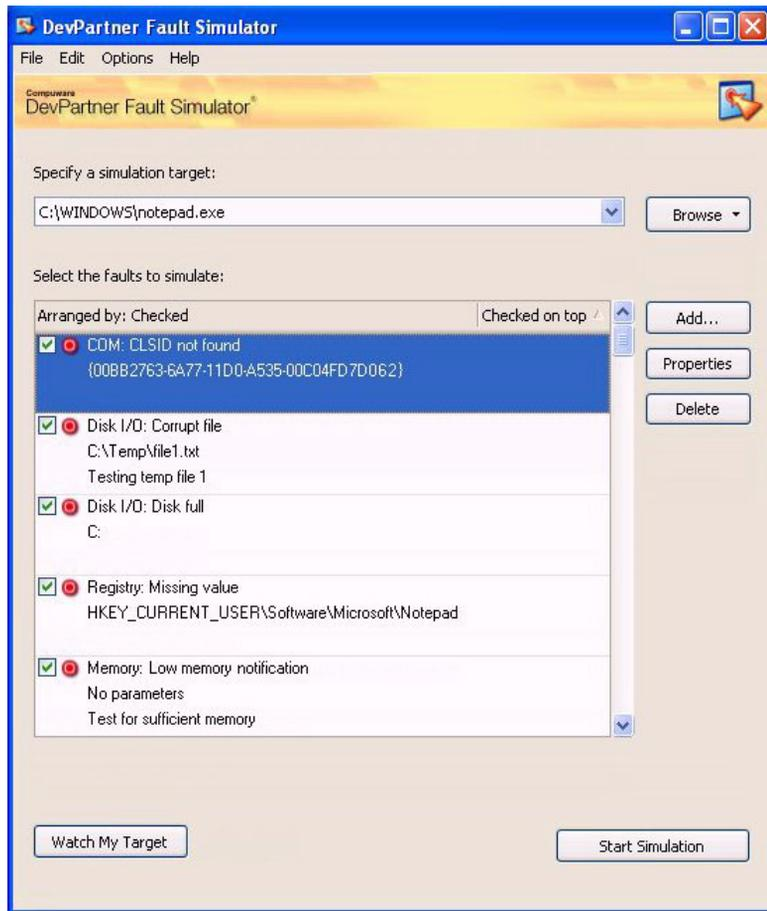

Figure 4-8. Selecting Fault Descriptors for a Fault Simulation
- 9 Optionally click **Arranged by** to customize the fault display. For example, as shown in Figure 4-8 on page 39, you might choose **Checked** and **Checked on top** to only see selected faults.